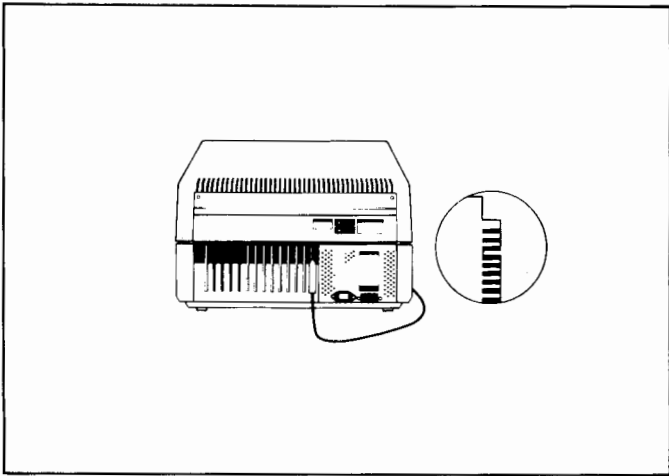

Figure 2-5. Keyboard Interface Cable Connection
2. Raise the unit's hinged rear access cover (two rotating latches hold it in place) and connect the keyboard cable hood connector to the printed circuit card. The printed circuit card has been notched to match the cable connector (figure 2-5).